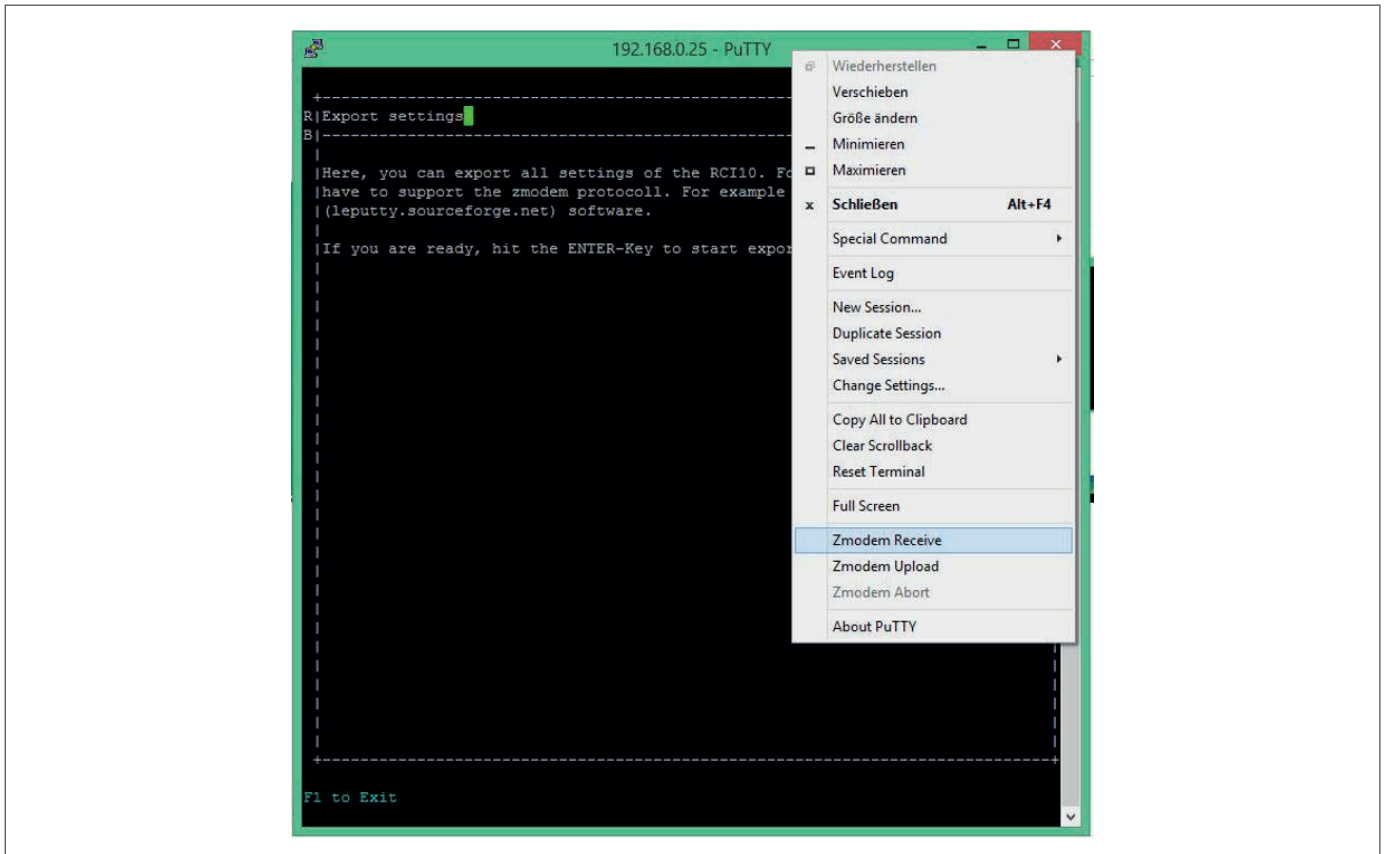

fig. 11: SSH - Zmodem pull down menu
- Navigate with the mouse on the upper SSH window frame. Press the right mouse button, a menu opens. Select the menu option **Zmodem Upload**, see also fig. 11.
4. Navigate with the mouse on the upper SSH window frame. Press the right mouse button, a menu opens. Select the menu option **Zmodem Upload**, see also fig. 11.